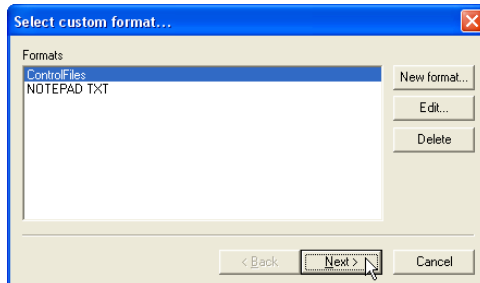

Figure 9-3. Select Format Type
2. On the Select custom format dialog box, select the format type and click **Next** (Figure 9-3). See “Creating Custom Import/Export Formats for Text Files” on page 2-2 for details on creating or editing import formats.